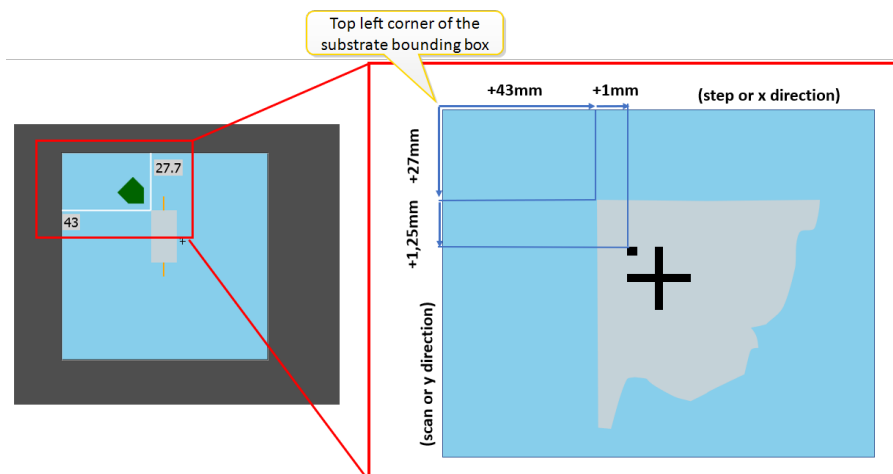

Figure 3-79 Project position (l) and Fiducial position (r)
2. Calculate the expected fiducial marker positions with reference to the top left of the substrate bounding box, see Figure 3-79.